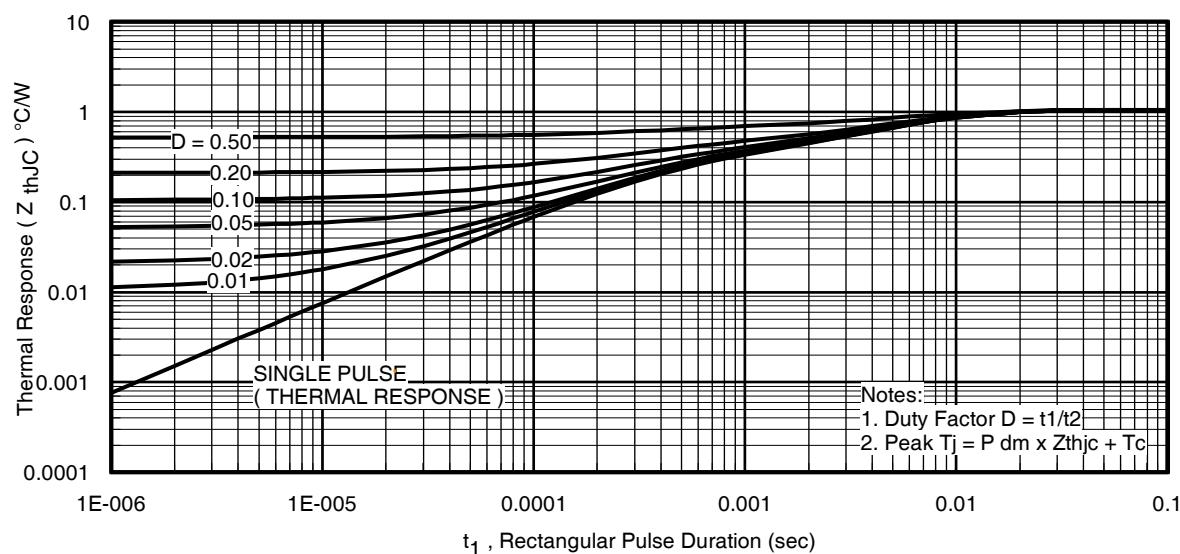
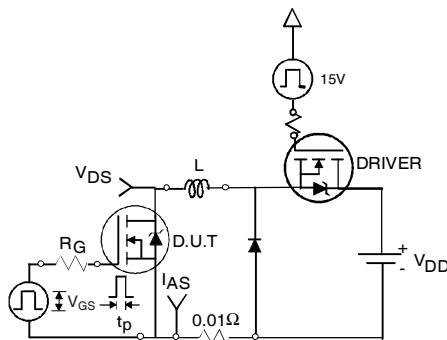

Fig 11. Maximum Effective Transient Thermal Impedance, Junction-to-Case
Fig 17a. Unclamped Inductive Test Circuit
- ① Repetitive rating; pulse width limited by max. junction temperature. (See fig. 11).
- ② Limited by T_{Jmax} , starting $T_J = 25^\circ\text{C}$, $L = 0.399\text{mH}$ $R_G = 25\Omega$, $I_{AS} = -37\text{A}$, $V_{\text{GS}} = -10\text{V}$. Part not recommended for use above this value.
- ③ Pulse width $\leq 1.0\text{ms}$; duty cycle $\leq 2\%$.
- ④ $C_{\text{oss eff.}}$ is a fixed capacitance that gives the same charging time as C_{oss} while V_{DS} is rising from 0 to 80% V_{DSS} .
- ⑤ Limited by T_{Jmax} , see Fig.17a, 17b, 14, 15 for typical repetitive avalanche performance.
- ⑥ This value determined from sample failure population. 100% tested to this value in production.
- ⑦ This is only applied to TO-220AB package.
- ⑧ R_θ is measured at T_J approximately 90°C
3. Equation below based on circuit and waveforms shown in Figures 17a, 17b.
$Z_{thJC}(D, t_{av}) = \text{Transient thermal resistance, see figure 11)$